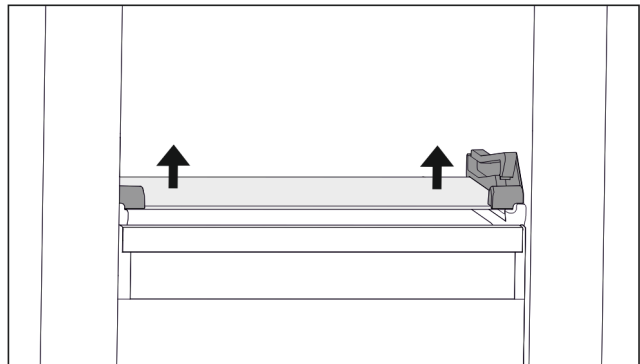

Fig. 40 Tilting drawer glass shelf
- ▶ Push glass shelf upwards from below on both sides. (see Fig. 40)